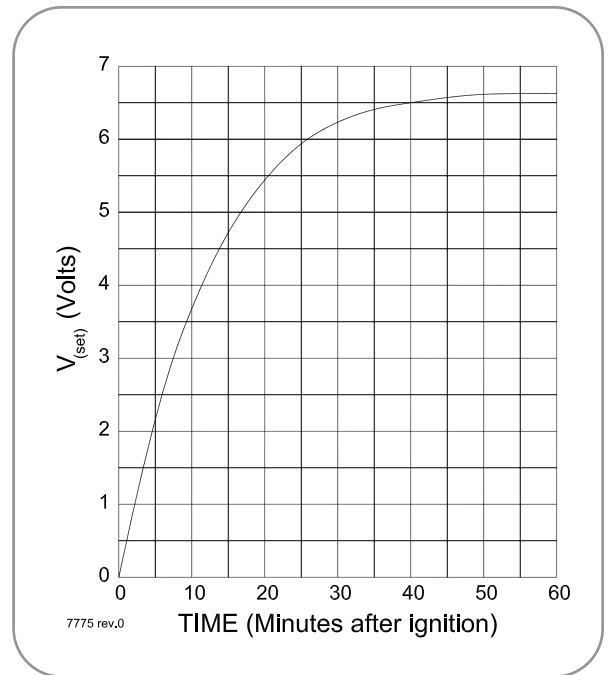

Figure 11 V_{set} Vs Time
The heat up characteristic of the TEG is shown in Figure 11, which gives V_{set} as a function of time after ignition. This curve is for a TEG set at the fuel pressure that produces rated power. During this heat up period, measure the V_{set} and record it as item 2 on the start up data sheet at the time intervals specified. To monitor progress during heat up, compare your measurements with those shown in Figure 11.